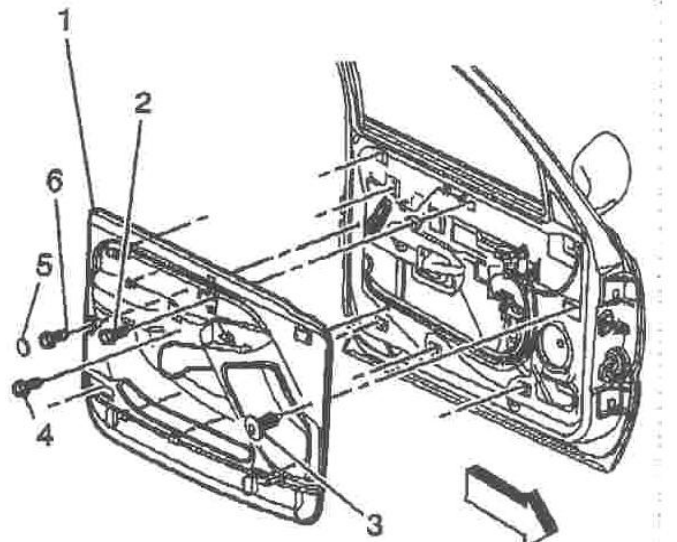

Fig. B-1
-  **Step 1:** Use a flat bladed tool to gently pry the manual lock lever from the door panel. **Note: Use Figure B-1 as a guide to remove your door panel.**
-  **Step 2:** Remove the push in fastener at the front edge of the door trim. **Push fastener is labeled 3 in figure b-1**
-  **Step 4:** Remove the trim panel screws depending on the year of your vehicle you may have two or three screws to remove. They are located at the door lock opening, armrest, and rear edge of you door panel. **Panel screws are numbers 2, 4, and 6 in figure b-1.**
KEY FOR FIGURE B-1